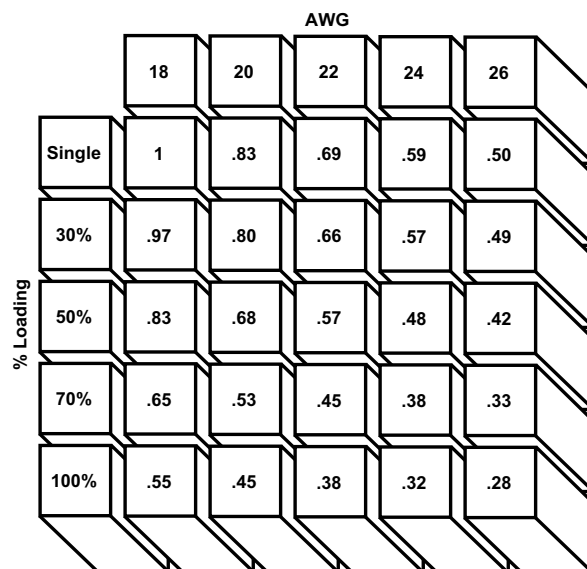

Figure 2
■ Next are rating factors; a table of multipliers to account for connector loading and for smaller wire sizes (See figure 2). The designer first determines the base current for the ambient conditions of the application; then multiplies this base current by the rating factors to find the current level for the application's loading factor and wire size.
■ Figure 2, the rating factor for 50% loading and 20 AWG [0.6mm²] wire is 0.68.